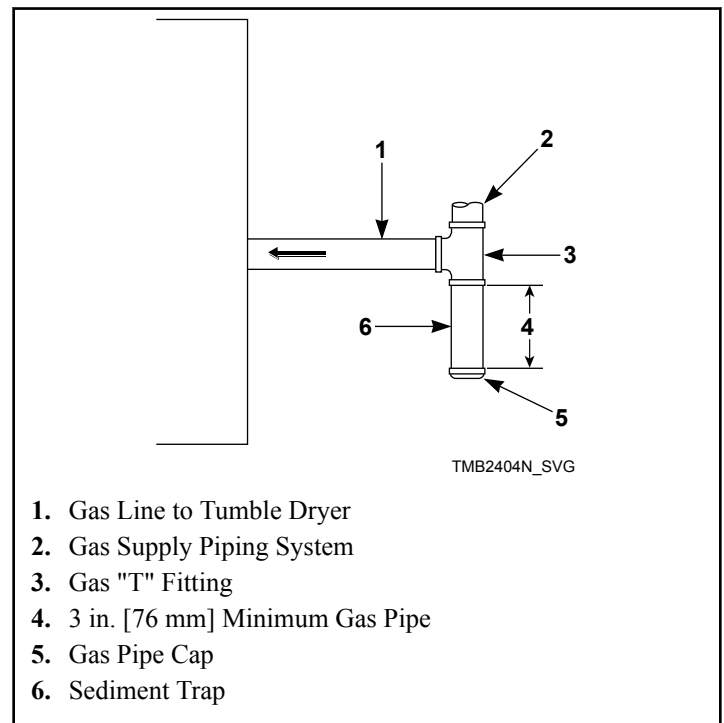

Figure 16
The following must be furnished and installed by the customer for the gas service line to each tumble dryer. Refer to *Figure 16*.
- Supply pressure taps (1/8 NPT minimum) (refer to *Figure 16*)